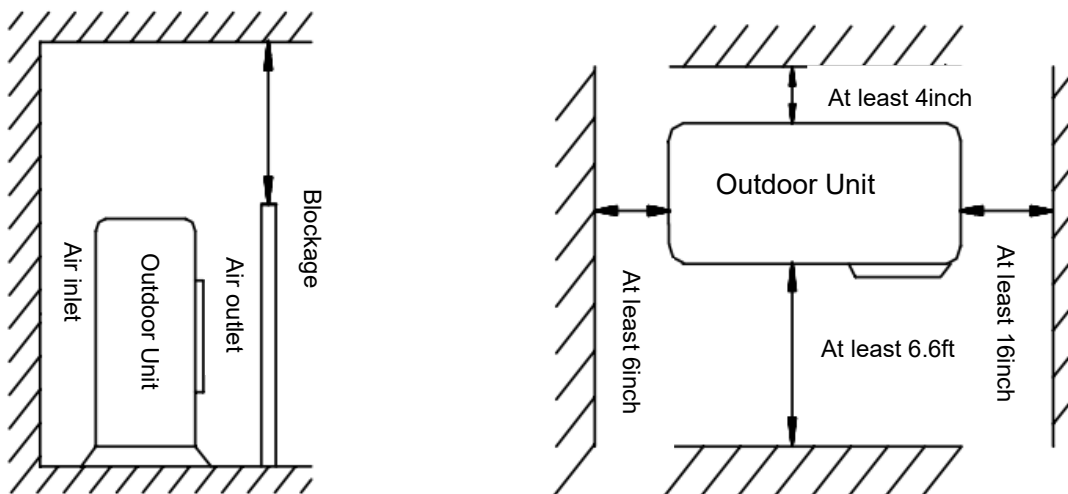

Fig 2
- The installing distance must be required as Fig. 2 shows.